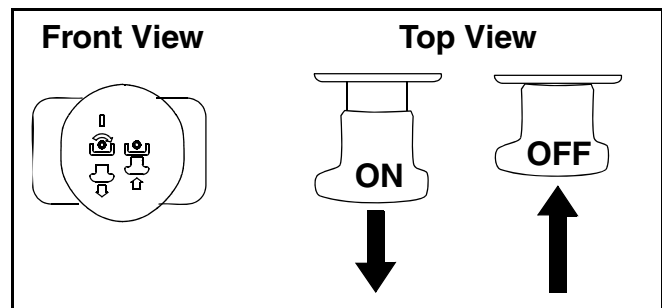

Figure 8
2. Pull the PTO/Blade Engage knob outward into the engaged (ON) position. See Figure 8.